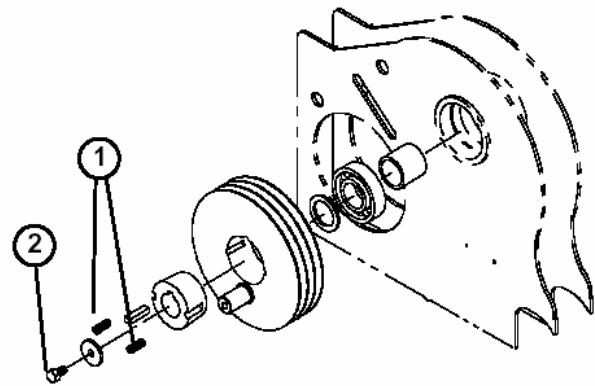

Figure 3
8. Remove the M12 bolt and the thin assembly washer securing the taper lock assembly to the opposing crank arm (Fig. 3). Discard.
9. Remove the taper lock bushing set screws from the bushing. Install the set screw in the removal hole and tighten until the taper lock bushing is free from the pulley (loose assembly). Remove the setscrew from the removal hole (Fig. 3).